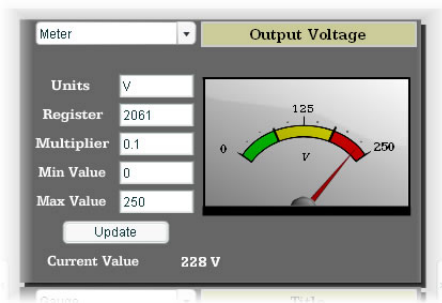

Figure 65: Meter
**Meter:** Refer to Figure 65. This type of meter implements a common panel meter-type display format. The units string is shown on the face of the meter. All raw register values are interpreted as positive numbers (i.e. 0..0xFFFF equates to 0..6553510.)